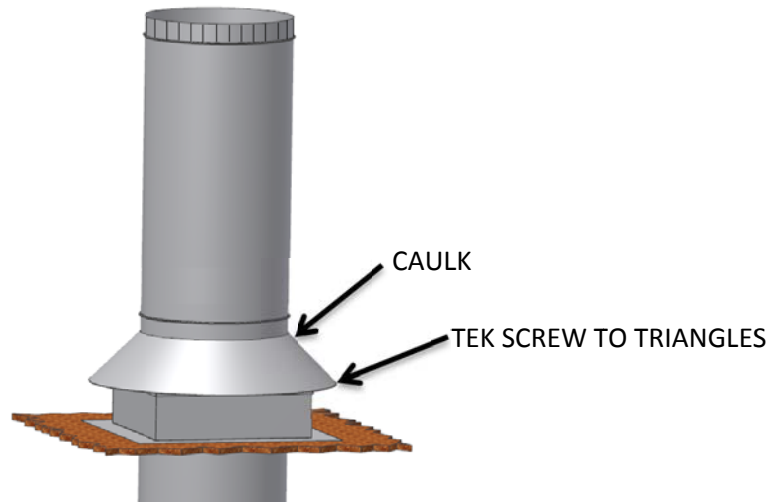

FIG. 10
Step 7: The rain collar is made of 2 pieces (FIGURE 10). Fasten the 2 pieces together by tek screwing the channel as shown in EXAMPLE B.